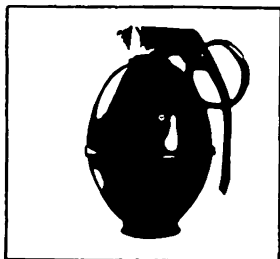
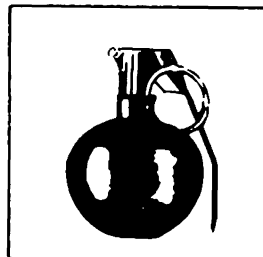

Figure 3.
Figure 4.
- (1) Fragmentation grenade with time delay fuze: M67 (fig. 4), M26A1 or M56 (fig. 3) and the M33 (fig. 1). These grenades are your best all around choice. They can be thrown a little over 40 meters by most soldiers and will kill or injure exposed soldiers that are within 15 meters of them when they explode. You should, with some practice, be able to throw the grenade to within 5 meters of a selected point 35 meters away from you or within a fighting position 2 meters wide at 20 meters range. Grenades thrown at these targets may hit and roll into the target area, but you should practice to hit the fighting position 'on the fly' in order to destroy positions with frontal cover. Another technique which can be employed with these grenades is the cook-off. To do this you release the safety lever and hold the grenade for a two count (YOU MUST NOT HOLD IT LONGER, HOWEVER).